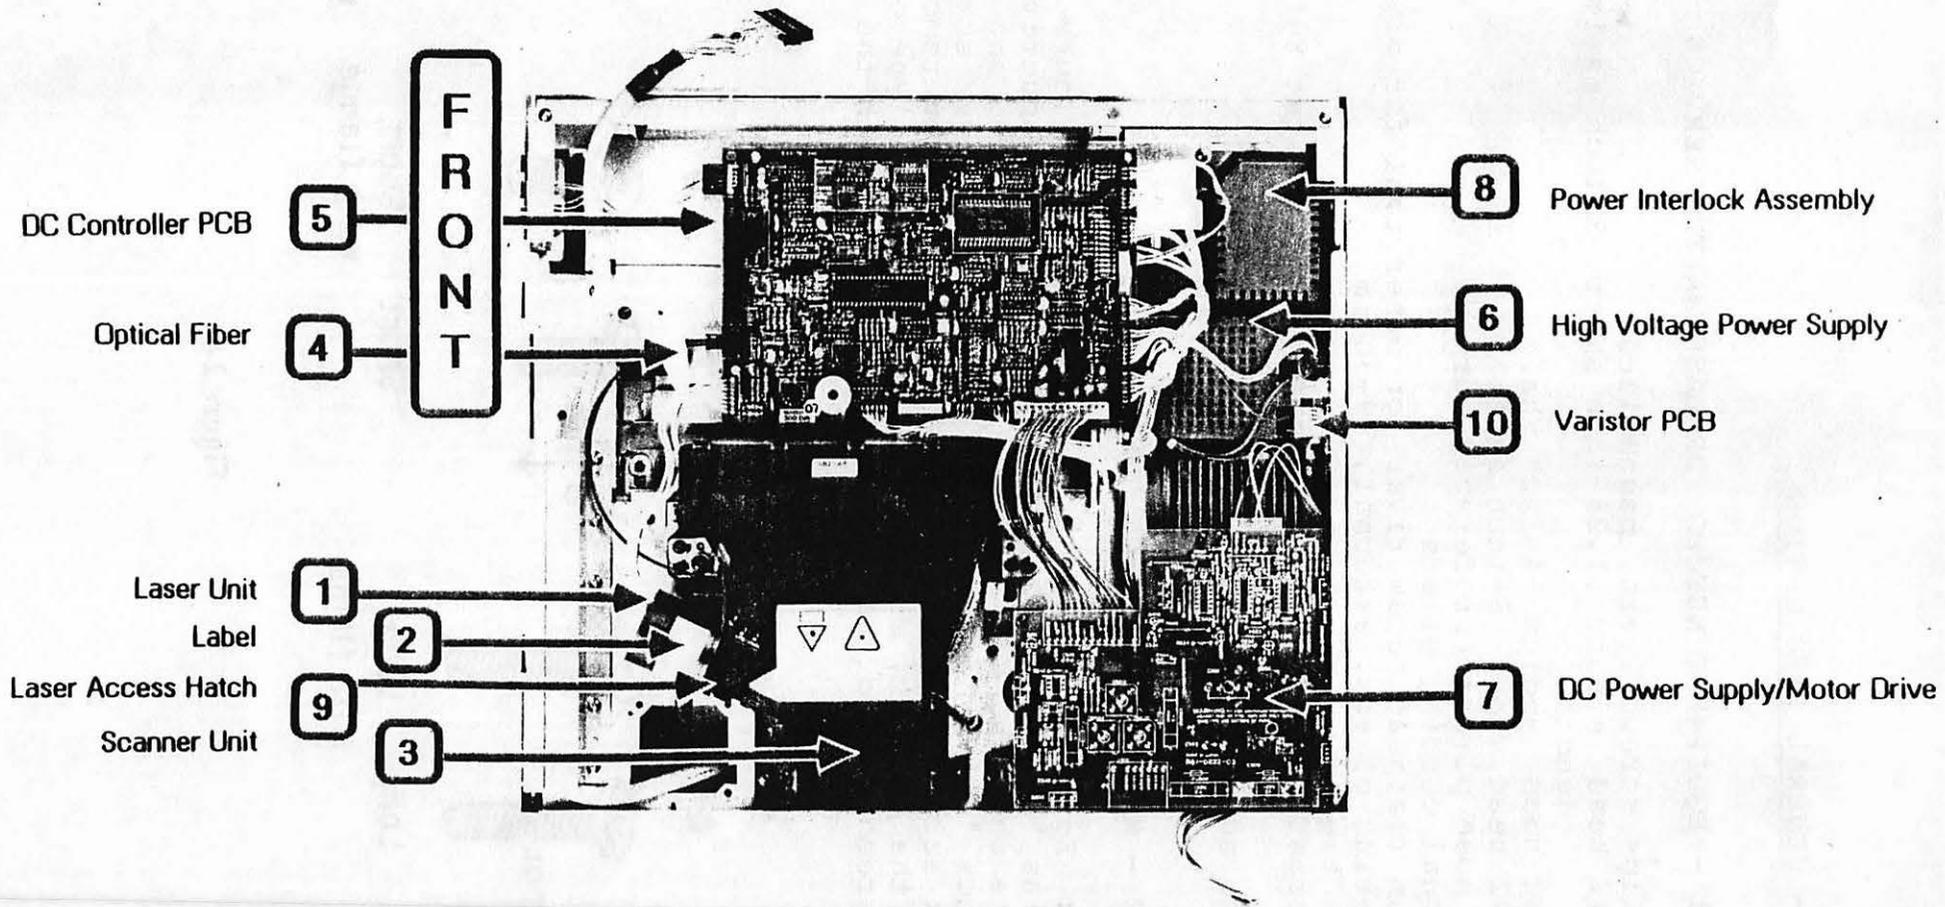

Figure 2-2 : Top View of LaserWriter With I/O Board Removed
2. Never disconnect the optical fiber (Figure 2-2, #4) from the DC Controller board when the printer is running. The fiber carries infra-red laser radiation, which you cannot see but which can permanently damage your eyes or your neighbor's eyes. Even if you don't look directly at the fiber, the light can enter your eyes by bouncing off reflective surfaces.
3. For the same reasons, never open the laser access hatch (Figure 2-2, #9) or the scanner unit (Figure 2-2, #3) when the printer is running. (Never open the scanner unit under any circumstances: it contains optical assemblies that must be protected from dust.)
5. When the printer is running with its covers or panels removed, be careful where you put your hands. There are dangerous voltages on the DC Power Supply (Figure 2-2, #7) and the High Voltage Power Supply (Figure 2-2, #6).